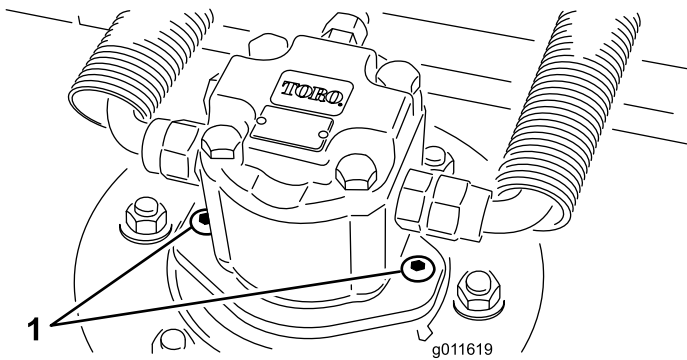

Figure 5
4. Install the hydraulic motor to the deck (Figure 5). Make sure that the O-ring is in position and not damaged.